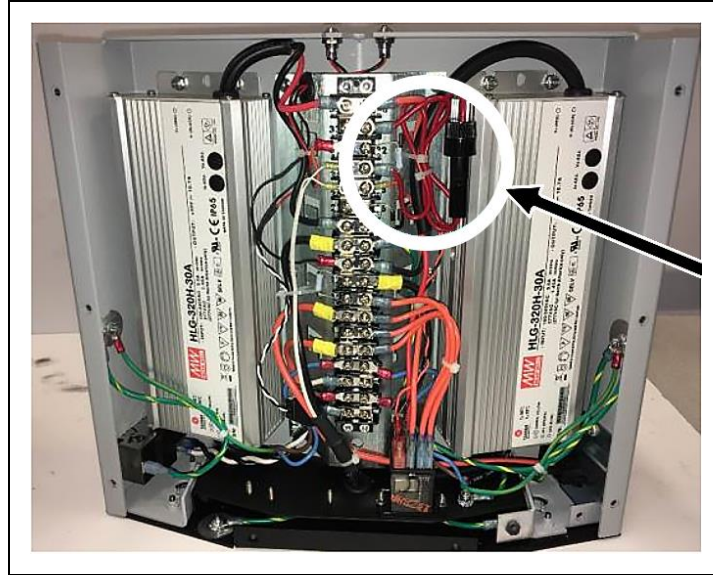

Figure 8-16 Location of the Internal Fuse Holder
3. Identify the fuse holder shown in Figure 8-16. It is close to the top of the bus-bar (A) in a black screw-top holder (B)